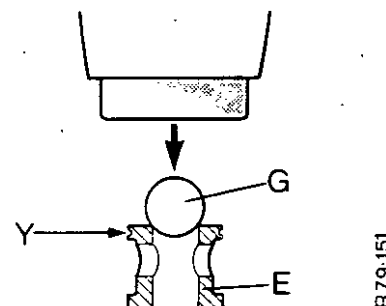

FIGURE 36. MAKING A SEAL BETWEEN THE SEAT AND THE BALL
1. Before assembling the parts put the steel ball in position on the seat as shown in Figure 36. A groove has been cut in the outside diameter at one end of the seat. This has been done so that you know which end to put the steel ball. Lightly hit the ball with a hammer. The softer metal of the seat will take the shape of the steel ball. This will make sure that there is a good seal between the steel ball and the seat.